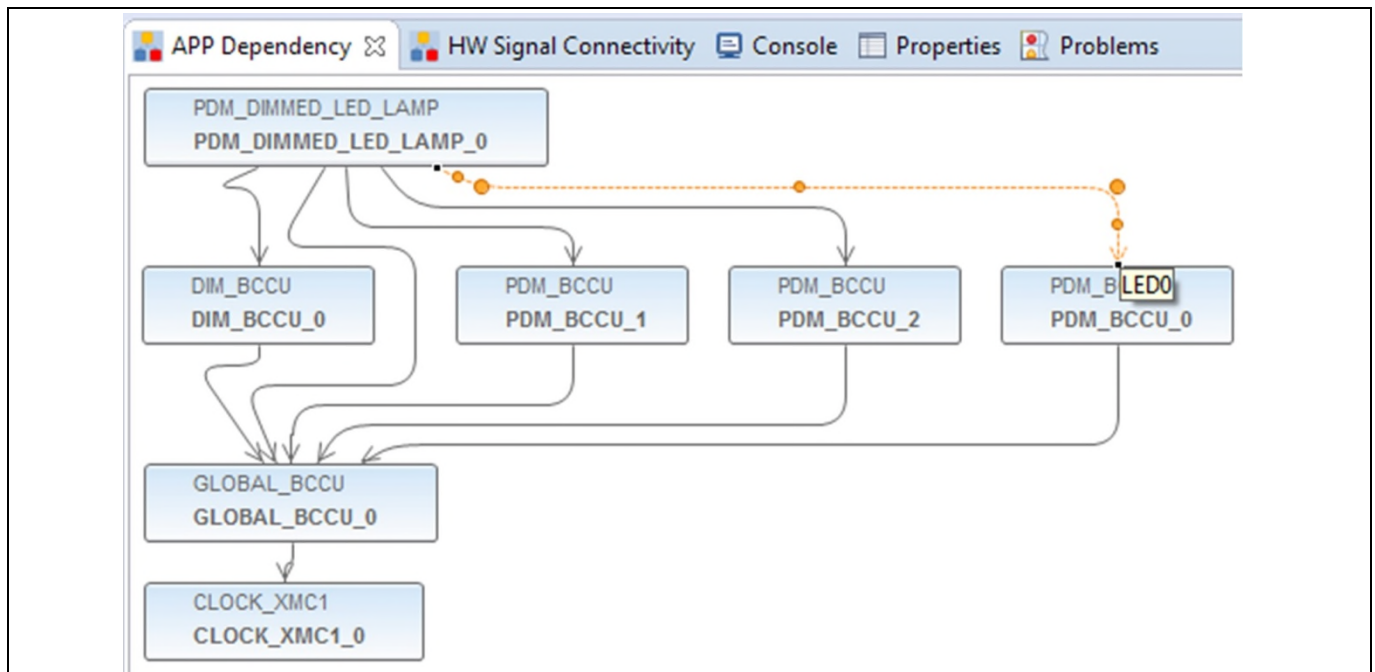

Figure 14 Renaming PDM_BCCU instance label
1. Hover the mouse cursor over the **connecting arrow** to a PDM_BCCU APP. A label appears momentarily showing the LED number, for example: LED0 (Figure 14).